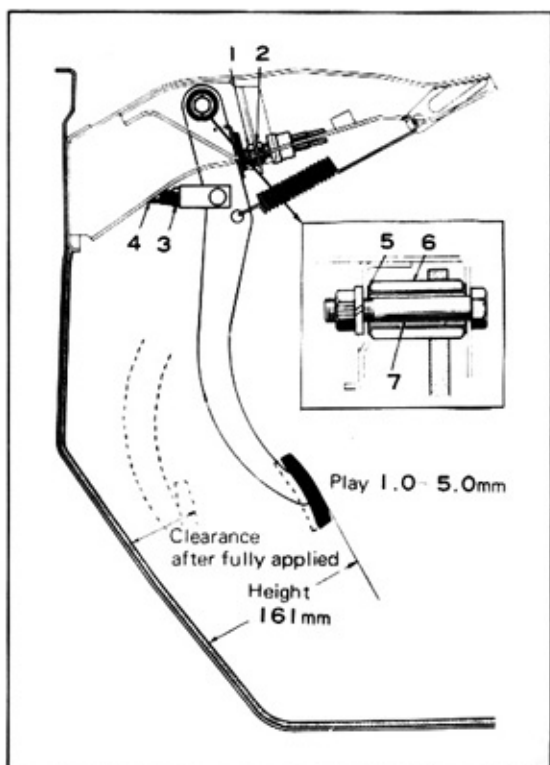

Fig. 8-15 Brake Pedal Adjustments
Note : Before assembling the bushings, coat parts (5), (6), and (7) with MP grease. (See Fig. 8-15).